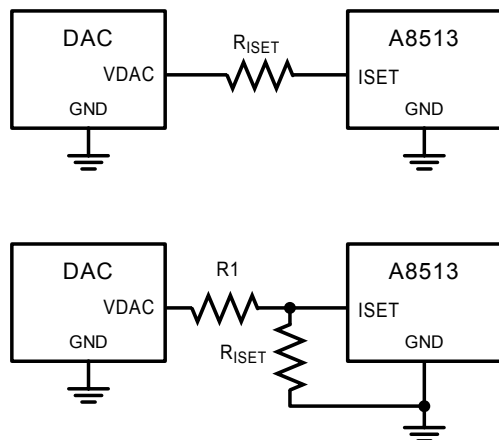

Figure 8. Simplified diagram of voltage LED current control (upper) single resistor, and (lower) dual resistors.
Figure 8, top panel is a typical application using a DAC to control the LED current using a single resistor connected to the ISET pin. The I_{SET} current is controlled by the following formula:
• For a dual-resistor configuration (lower panel of figure 8), the ISET current is controlled by the following formula: